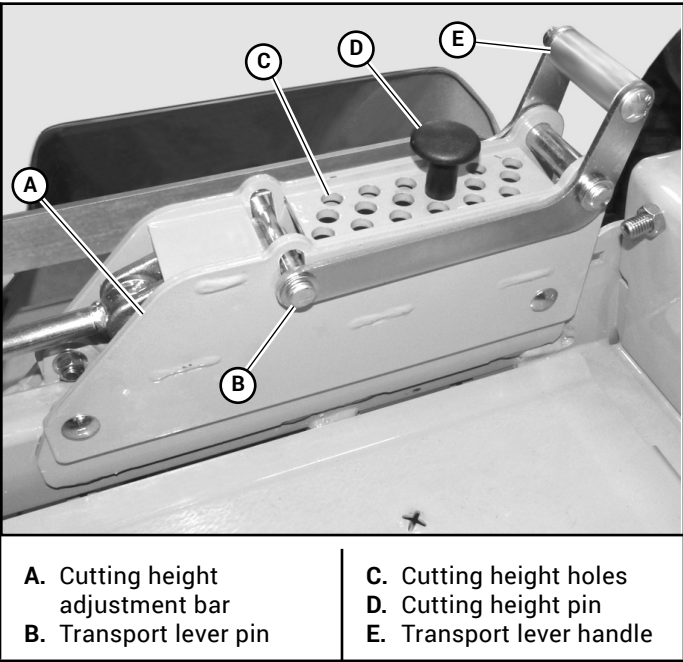

Figure 3-16
The deck cutting height is adjustable in 1/4" (6.3mm) increments. The holes in the height adjusting bar are spaced at 1/4" (6.3mm) intervals. Figure 3-16
2. Release the deck lift pedal. Figure 3-16